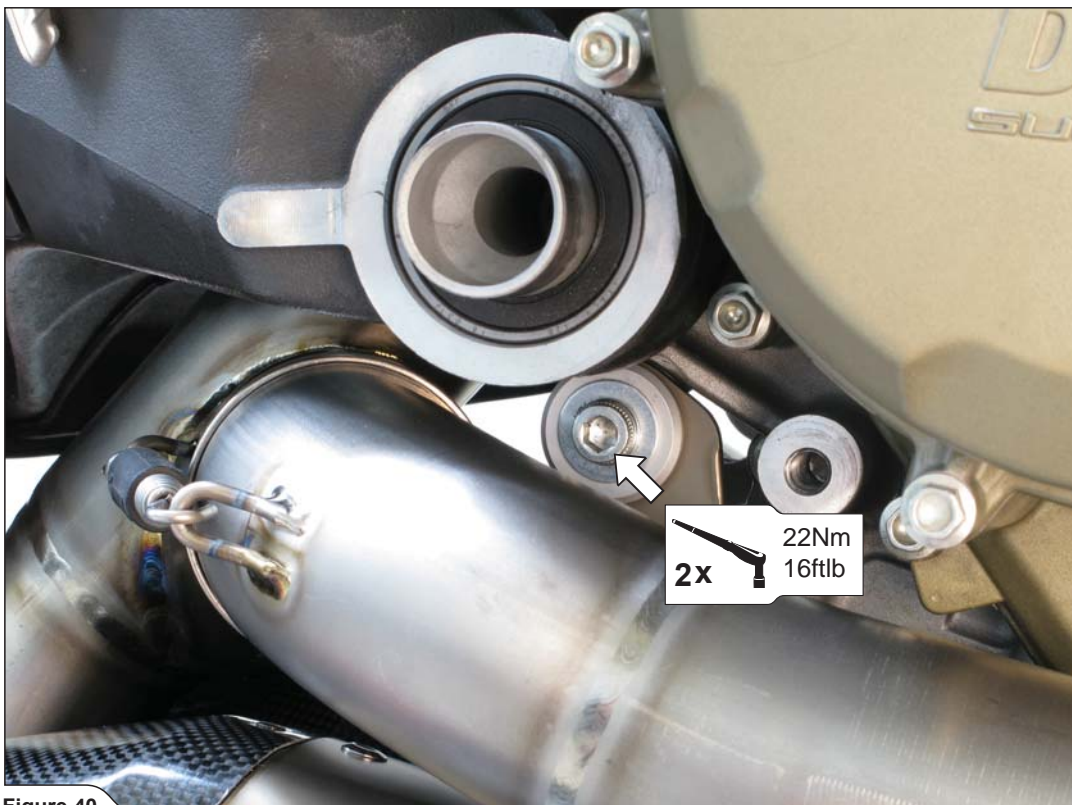

Figure 40
13. Align the mufflers and pipes in respect to the motorcycle and tighten the mufflers' bracket bolts to the specified torque (Figure 40, 41).